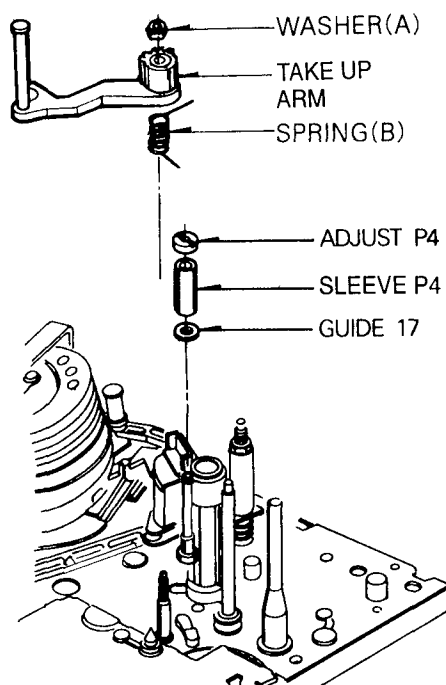

Fig. B-8 Take-Up Arm Assembly/P4
- ① When disassembling the Take-Up Lever, be careful not to break the Hook(A)
- ② When reassemble the Take-Up Lever, align the appendant Gear of Lever Take-Up with the appendant Gear of Take-up Arm
- ③ Reassemble the Take-Up Lever completely by hooking (A)
- ④ Be sure to replace together Take-Up Lever and Pinch Gear.
- ⑤ Be sure to assemble Pinch Lever Assembly before operating.
**8. Take Up Arm Assembly(Fig. B-8)**
9. P4 Assembly(Fig. B-8)